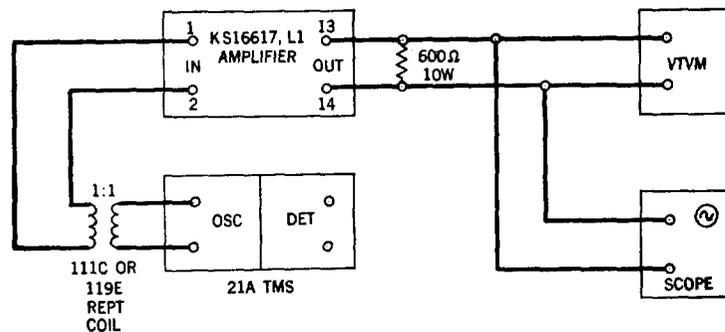

Fig. 3 - Test Setup for Observing Distortion of High-Level Channel
5.03 The distortion test should be made using the test setup shown in Fig. 3. Chart III outlines the step procedure to be followed for the test.
2	Connect circuit as shown in Fig. 3.